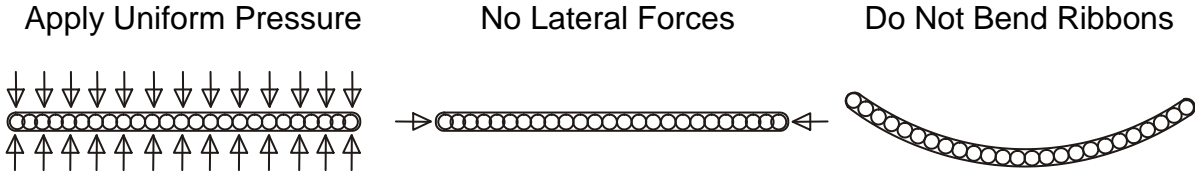

Figure 17 – AccuRibbon handling precautions.
3. Clean the individual ribbons by separating them from the ribbon stack and wiping with a clean, dry paper towel. Apply uniform pressure along the ribbon surface during the wiping operation (Figure 17). **Caution: Excessive squeezing pressure and/or excessive twisting may cause ribbon splitting. Handle the ribbons with care!**